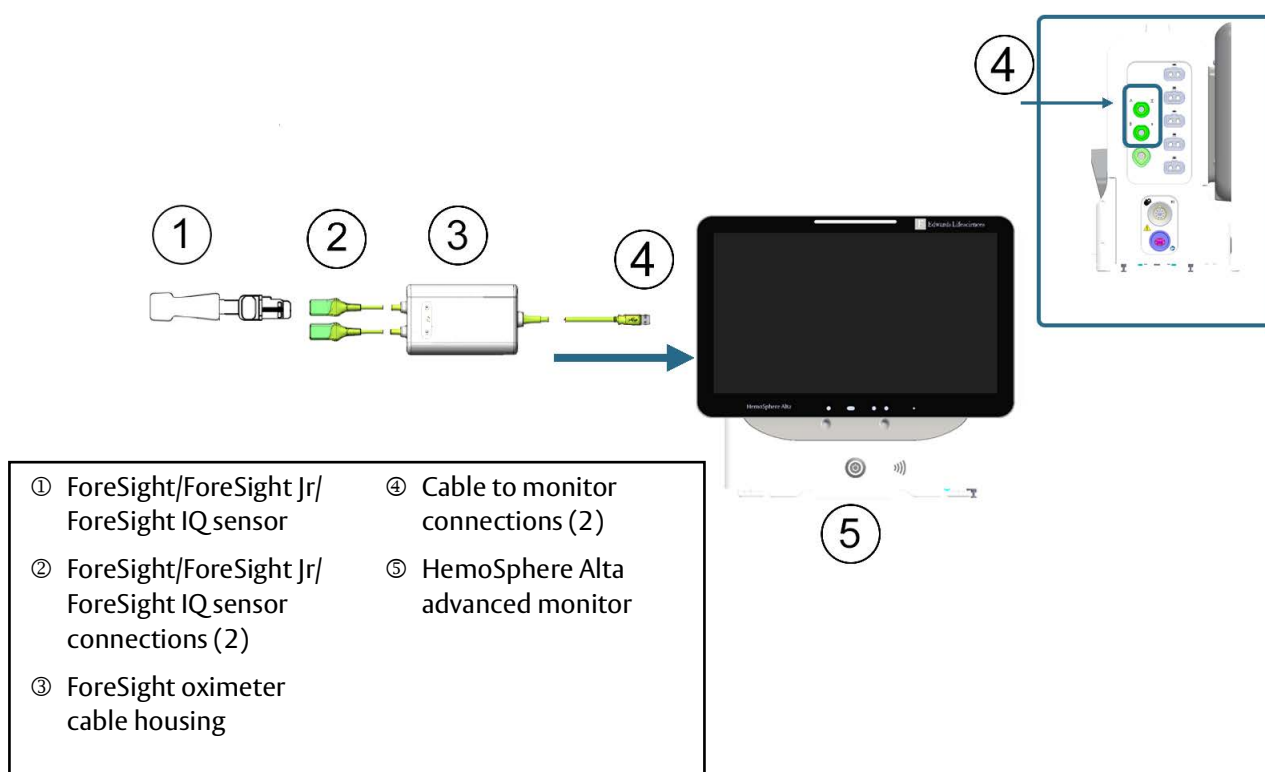

Figure 12-8 Tissue oximetry monitoring connection overview
- 2 Ensure proper orientation, then plug the ForeSight oximeter cable into the tissue oximetry port on the left panel of the monitor. See ④ in figure 12-8 on page 202. Up to two ForeSight oximeter cables can be connected to each port.